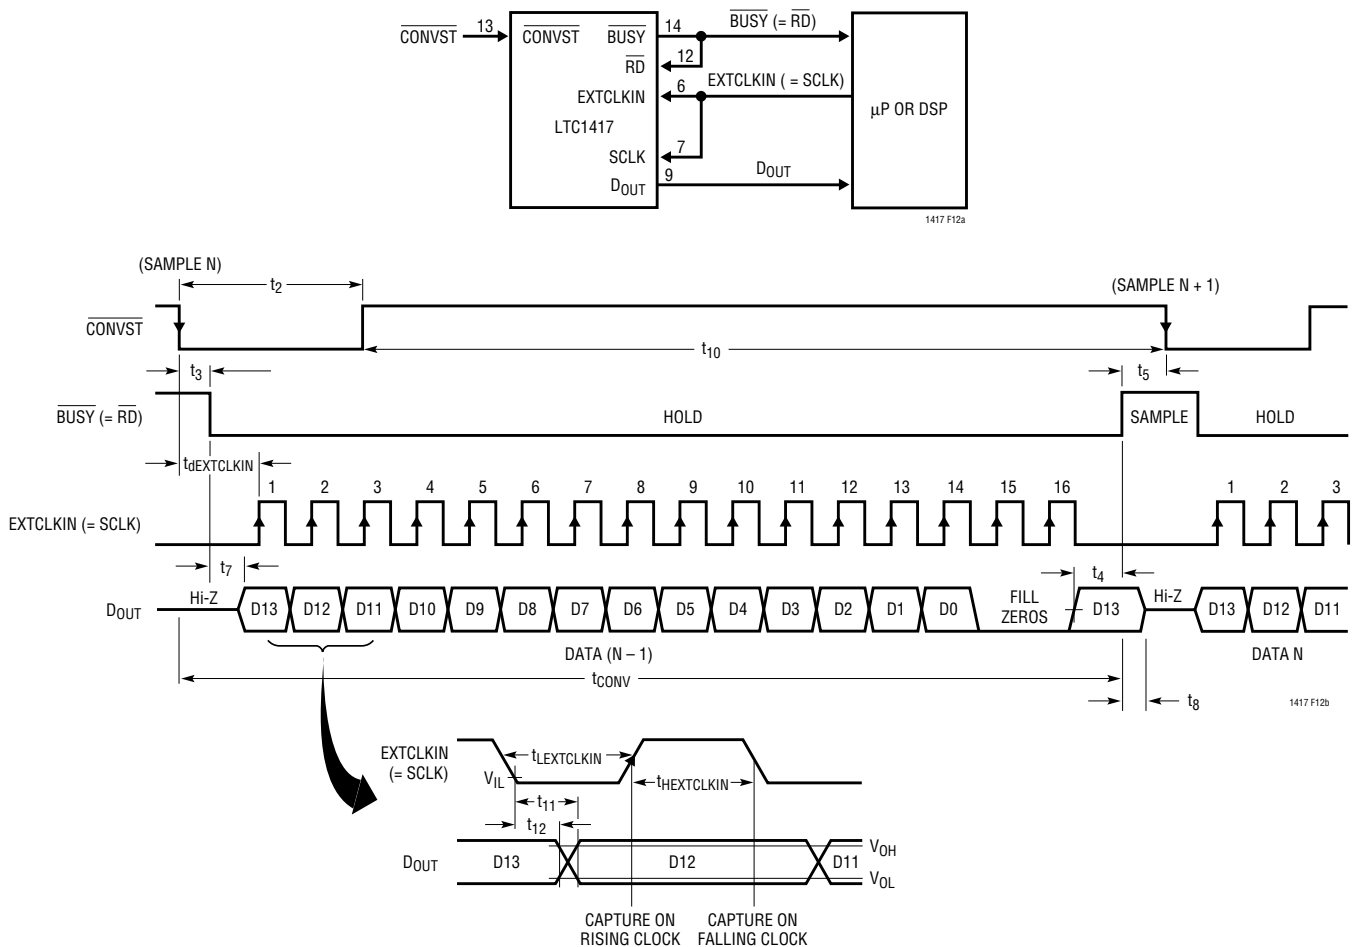

Figure 12. External Conversion Clock Selected. Data Transferred During Conversion Using the External Clock (External Clock Drives Both EXTCLKIN and SCLK)
**Using External Clock for Conversion and Data Transfer.** In Figure 12, data from the previous conversion is output during the conversion with an external clock providing both the conversion clock and the shift clock. To select an external conversion clock, apply the clock to EXTCLKIN. The same clock is also applied to SCLK to provide a data shift clock. To maintain accuracy the conversion clock frequency must be between 50kHz and 9MHz.